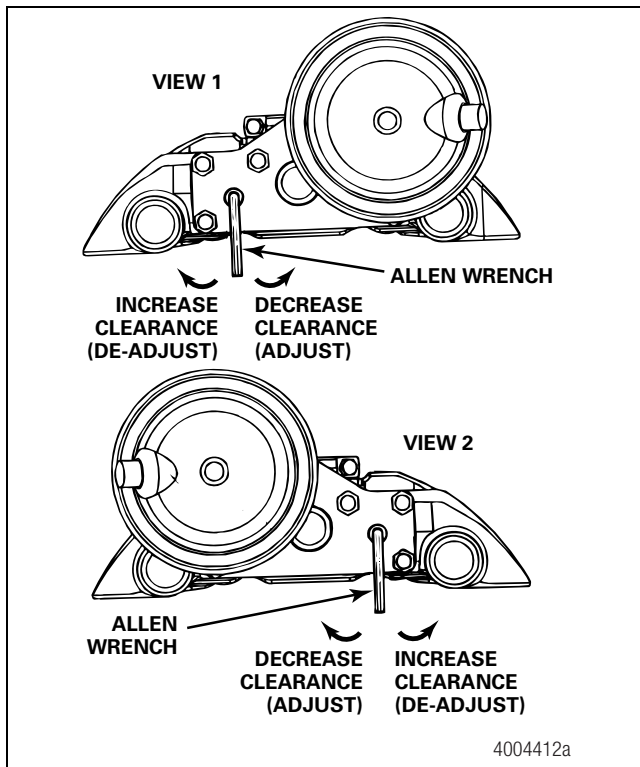

Figure 3
2. Use a 6 mm Allen wrench to de-adjust the brake. Stop turning the Allen wrench when you feel resistance. When you feel resistance, adjust the brake 1/4 turn to ensure that automatic adjustment will occur. Figure 3. Note the location of the air chamber with respect to the adjustment direction.
- A. Use a 6 mm Allen wrench to adjust the caliper by reducing the brake pad-to-rotor clearance to **ZERO**. Figure 3.
- C. Increase the brake pad-to-rotor clearance 10 clicks or 3/4 turn (de-adjust) to set the initial clearance. Figure 3.